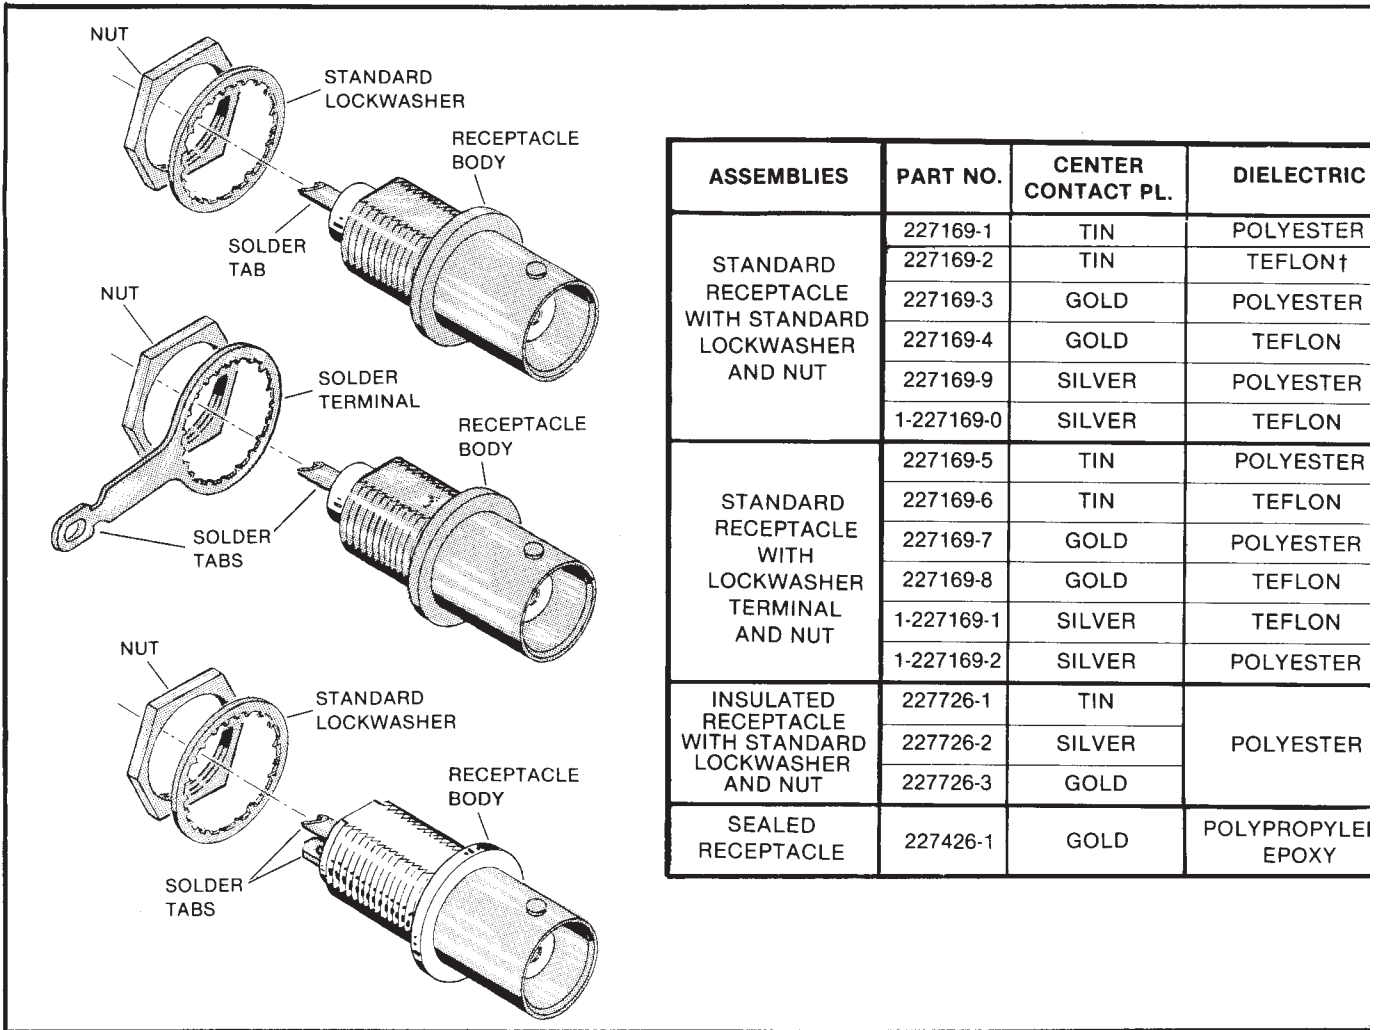

Figure 1
AMP★ Standard and Insulated Series BNC solder receptacle jacks are used in panel mount applications. They are available with the combinations of dielectric material and center contact platings shown in Figure 1.
**1. SOLDER RECEPTACLE JACKS LISTED IN FIGURE 1.**